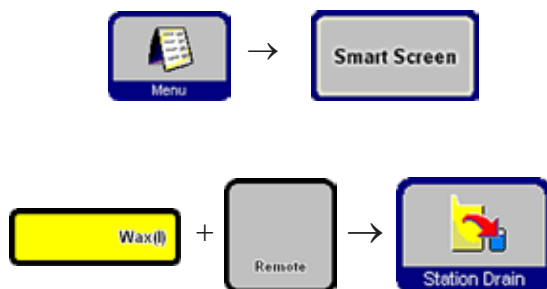

Fig. 56
- Select the paraffin reservoir to be emptied and the receptacle (External, Fig. 56). Then, press **STATION DRAIN...**